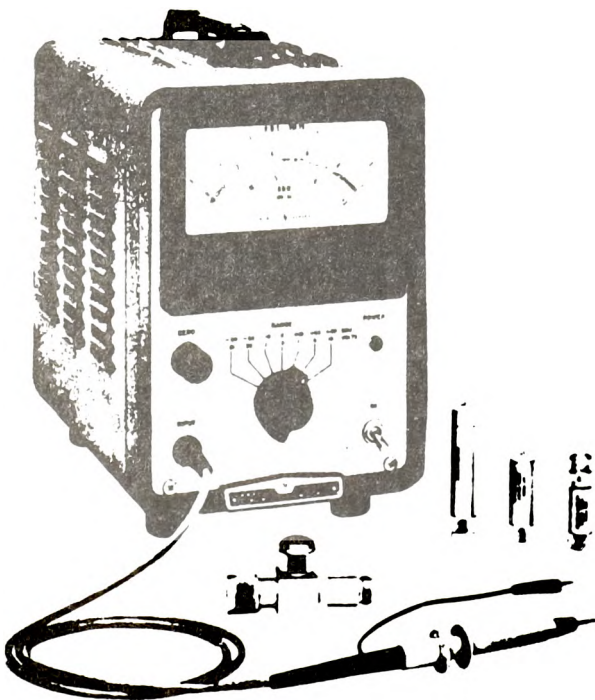

Figure 4-10. Model 411A RF millivoltmeter.
**Preliminary Considerations.** Look at figures 4-10 and 4-11. For the majority of your uses (measuring continuous